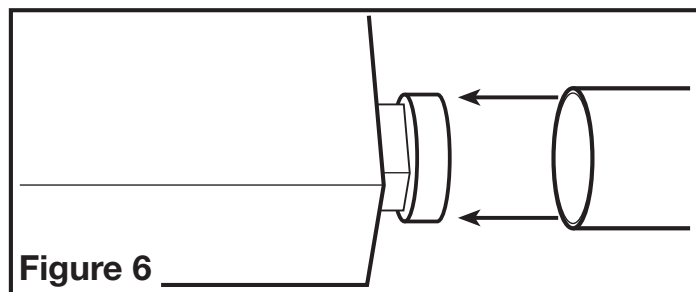

Figure 6
- Remove any tape that might be holding the damper in place. Connect the ducting to the fan's duct collar (Figure 6) and secure in place using tape or screw clamp. Always duct the fan to the outside through a wall or roof cap.